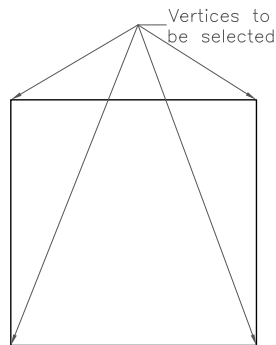
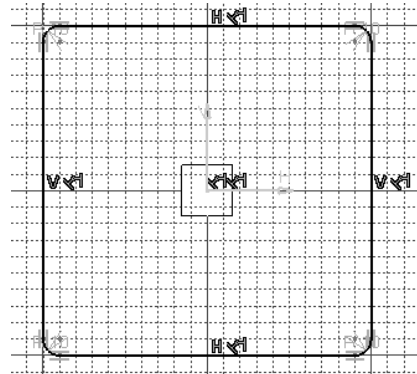

Figure 3-44 The vertices to be selected
Figure 3-45 The final outer loop of the sketch
9. Similarly, fillet the other corners of the rectangle by following the procedure mentioned above. The vertices to be selected are shown in Figure 3-44. The final outer loop of the sketch, after filleting all vertices, is shown in Figure 3-45.